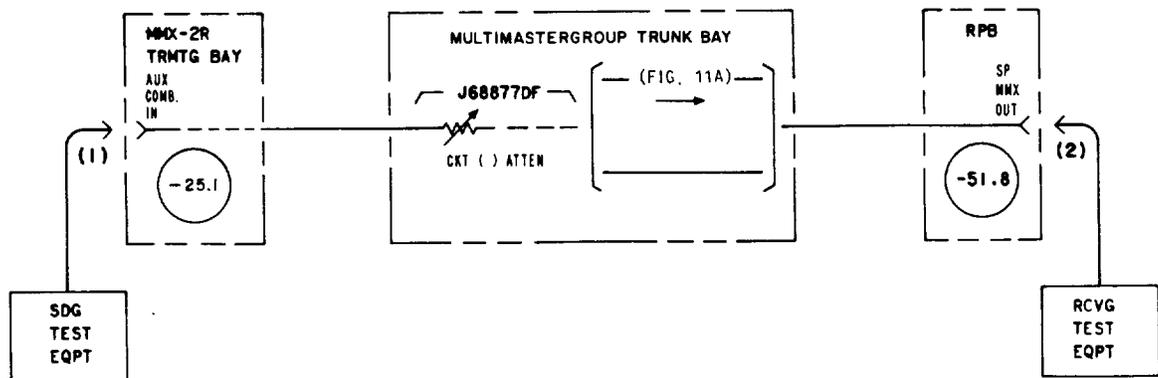

Fig. 3—Transmitted Spare Mastergroup Bank Restoration Trunk
3	Connect the STE to the AUX COMB IN jack of a spare transmitting mastergroup bank in the transmitting patch and test panel of the MMX-2R terminal [patch (1), Fig. 3].
4	Connect the RTE to the appropriate SP MMX OUT jack in the restoration patch bay [patch (2), Fig. 3].
<p>Note 1: A zero-loss trunk (Fig. 9A) may be used in conjunction with this trunk. In this case, the zero-loss trunk should be checked as prescribed in Chart 9A. The zero-loss trunk is indicated in Fig. 3 by the designation Fig. 9A.</p>